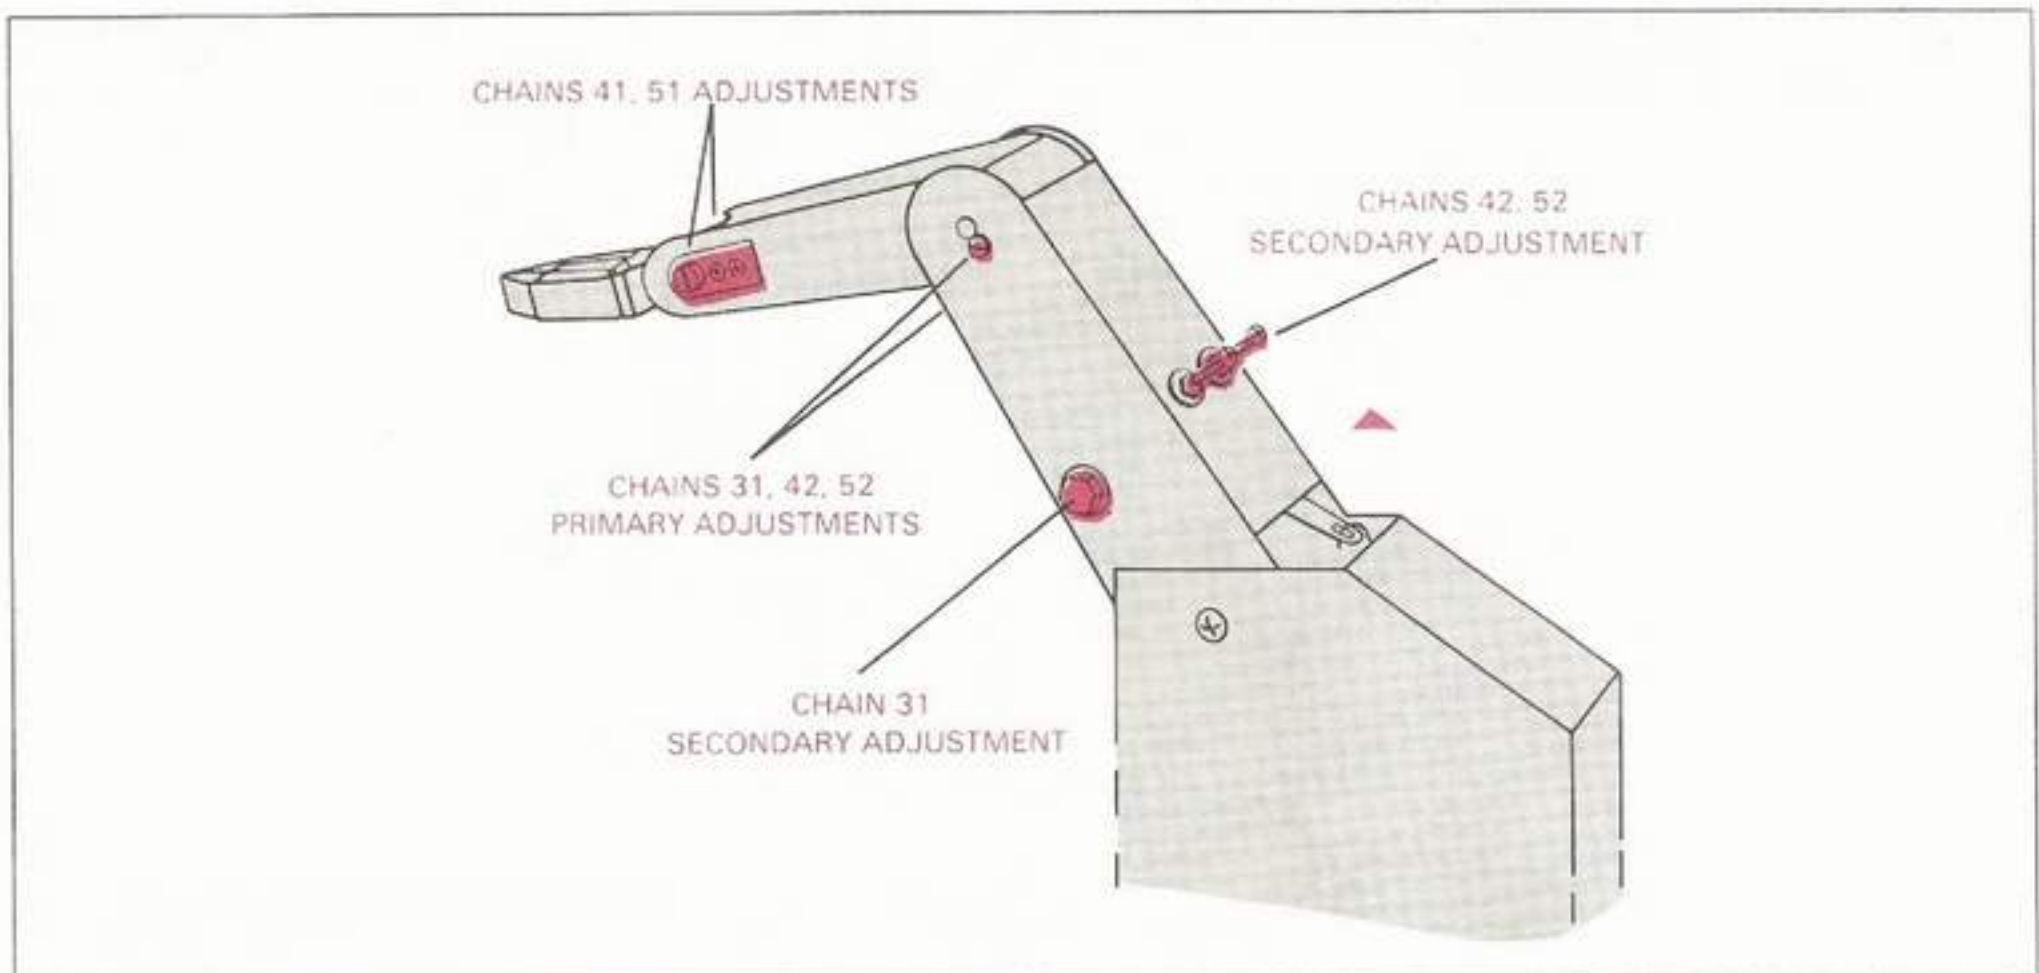

Fig. 94: Adjusting the Chains
- ___ a. Loosen the two small Phillips-head screws located on the side of the elbow, as shown in Fig. 94.
- ___ a. Loosen the large screws located on both sides of the elbow-shoulder joint. Refer to Fig. 94.
- ___ d. If chains 42 or 52 are still not taut, loosen the nuts on the two adjustment screws located at the top of the shoulder (see Fig. 94). Next, adjust the screws until the chains are taut, and then retighten the nuts.
- ___ e. If chain 31 is still not taut, loosen the large adjuster nut located on the right side of the shoulder (see Fig. 94). Next, tighten the chain by moving the adjuster sprocket, and then retighten the nut.